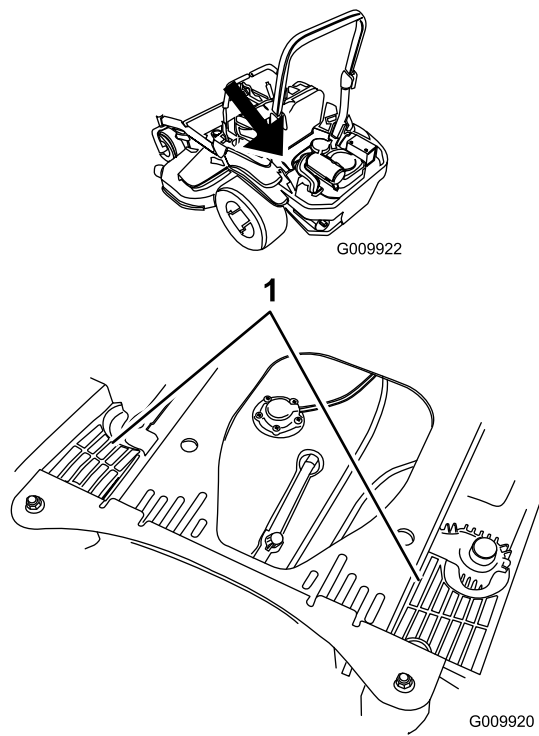

Figure 68
4. Clean the debris and grass from the hydraulic unit shrouds (Figure 68).